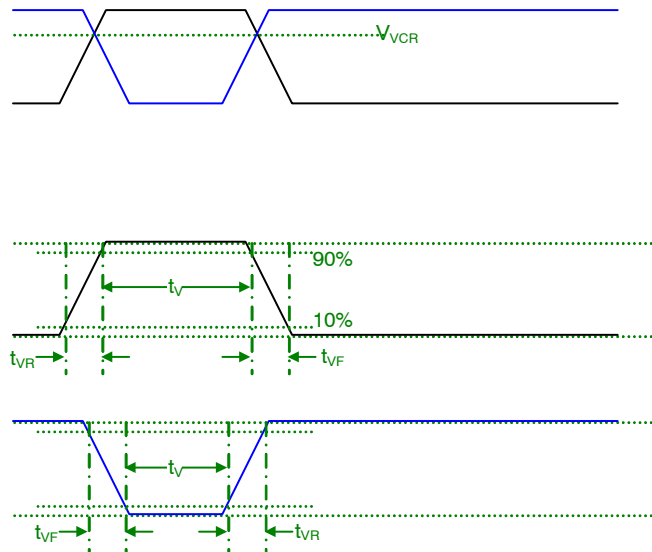

Figure 24. VCCD Clock Edge Alignment
2. Refer to Figure 24: VCCD Clock Edge Alignment